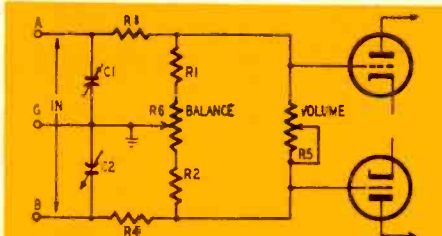

Fig. 6—Circuit using bridge attenuator.
5. Bridge attenuator (Fig. 6)
In Fig. 6, R1 and R2 are equal and R6 is a linear control which is adjusted for symmetry. $R6 + R1 + R2$ should be high compared to R3 and R4 but low enough to act as grid resistors for the tubes used. R3 and R4 are equal dropping resistors high enough to maintain the source impedance with R5 near zero, but low enough not to be themselves much affected by $R6 + R1 + R2$ or by the grid capacitances. R5 is the tapered volume control and its maximum value should be high compared to $R3 + R4$ unless there is gain to spare. C1 and C2 are trimmers to balance the source to ground and their size depends upon its capacitances. They are of most use with floating sources. Typical values for Fig. 6 with two types of pickup are given below:
If you arrange Fig. 6 carefully, shield it well, and balance it correctly, it should be satisfactory even with high impedances.